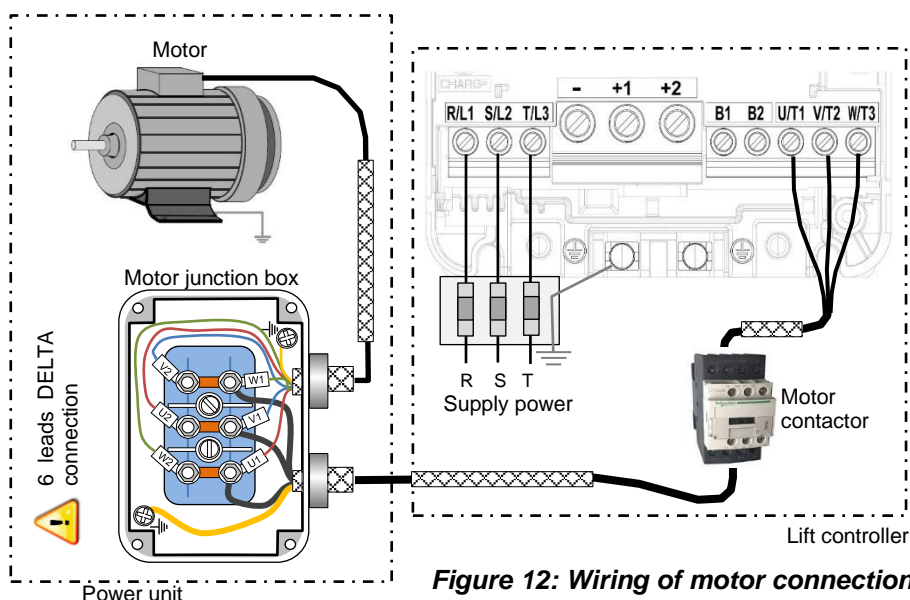

Figure 12: Wiring of motor connection
3.3.2 CONNECTION OF THE MOTOR OUTPUTS TO THE MOTOR CONTACTOR: Use a shielded cable and connect the shield to the ground. Connect motor outputs (U/T1, V/T2, W/T3) from the drive to the motor contactor in the lift controller as shown in Figure 12.
3.3.3 CONNECTION OF THE MOTOR CONTACTOR TO THE ELECTRICAL JUNCTION BOX: Use a shielded cable and connect the shield to the ground. The motor connection is shown in Figure 12 for a 6-lead delta connection. Before connecting the motor to the junction box check motor name plate for correct type of connection.